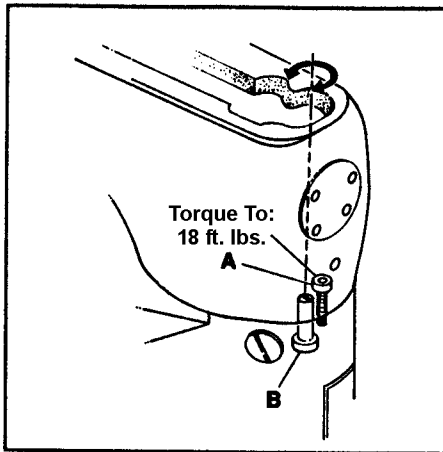

FIG. 5
Remove the top front cover and gasket from the main frame. Loosen cylinder holding screw (A, Fig. 5). Turn eccentric screw (B) clockwise to move the cylinder so the needles are closer to the right side of the stitch tongue. Turn the stud counterclockwise to locate the needles closer to the left. Tighten screw (A) and recheck settings.